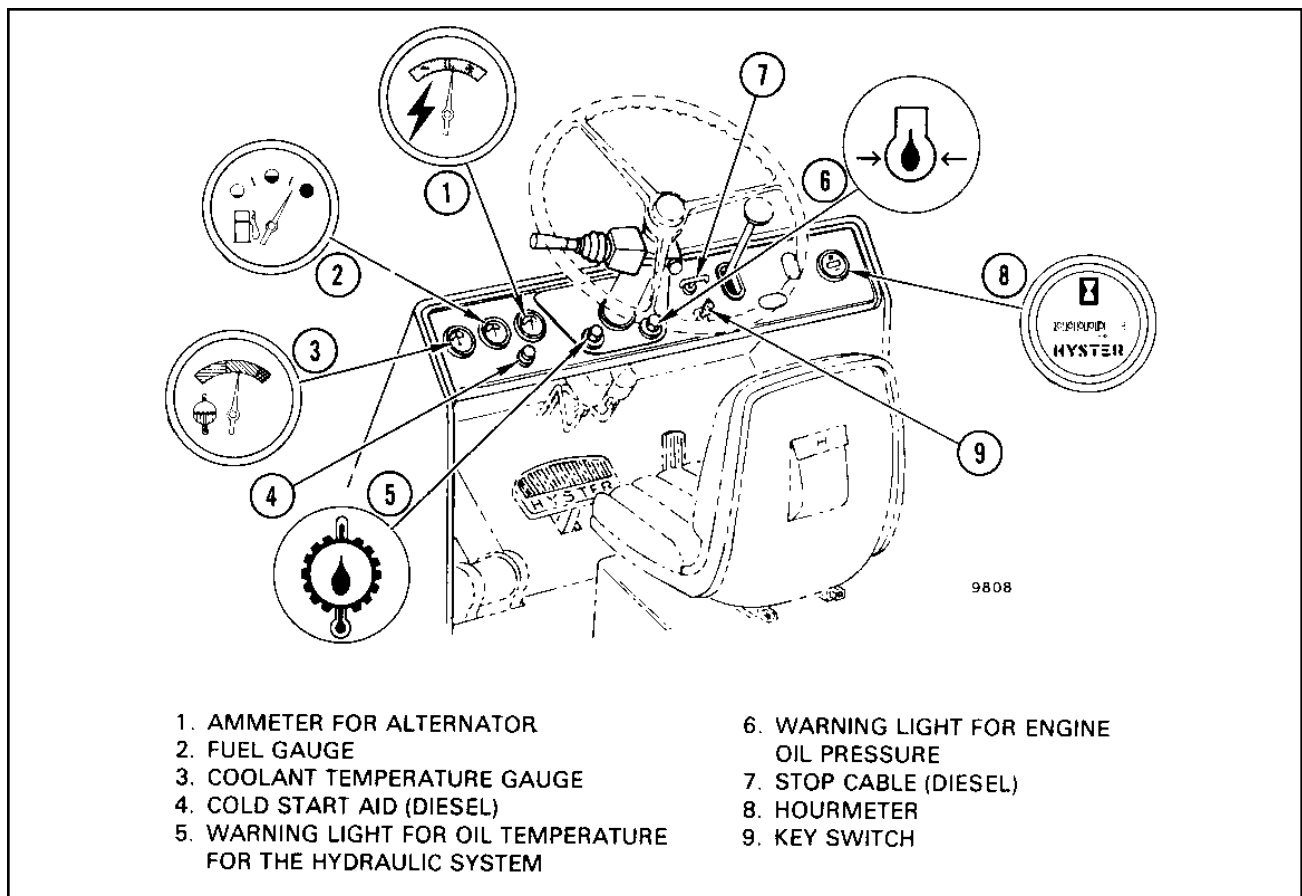

FIGURE 10. GAUGES AND WARNING LIGHTS
### Gauges and Lights (See Figure 10)
**TABLE 1. INSTRUMENT PANEL (See Figure 10)**